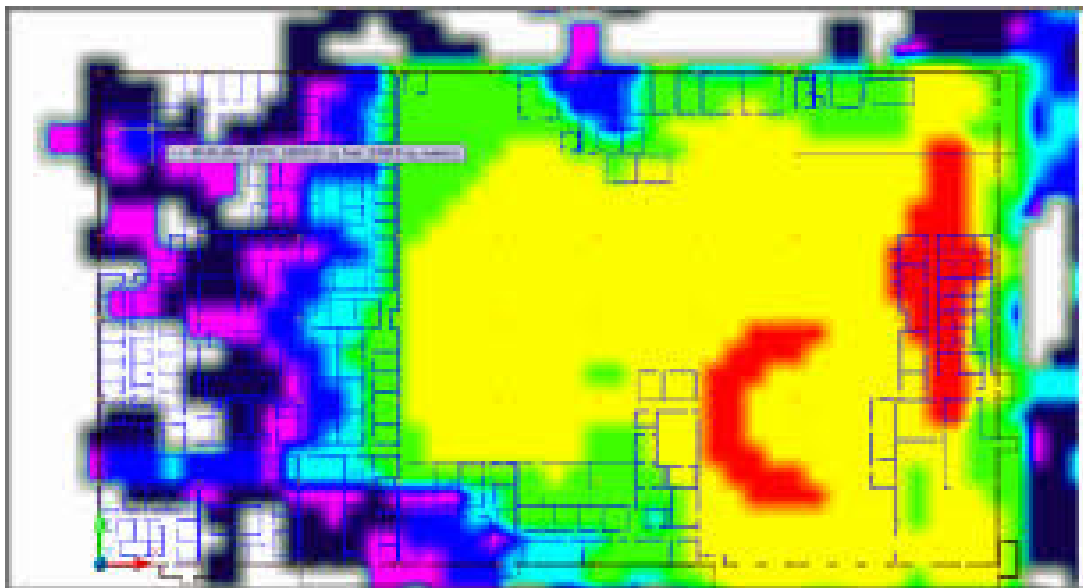

Figure 26. Design heat map
2. RF “heat” maps, like the one shown in Figure 26, are a color-coded representation of predicted RF levels received.